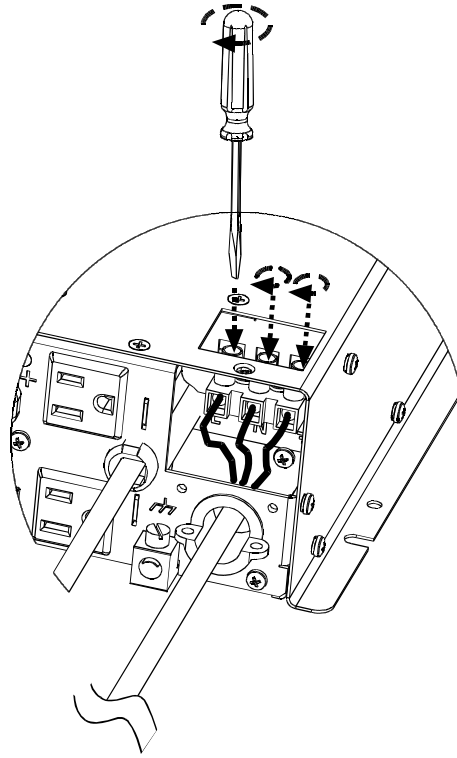

Figure 10 Completing the hardwiring
13. Tighten the wire attachment screws to a torque of 1.3–1.8 lbf-ft (1.76–2.44 Nm) as shown in Figure 10. Leave some slack inside the output wiring box.